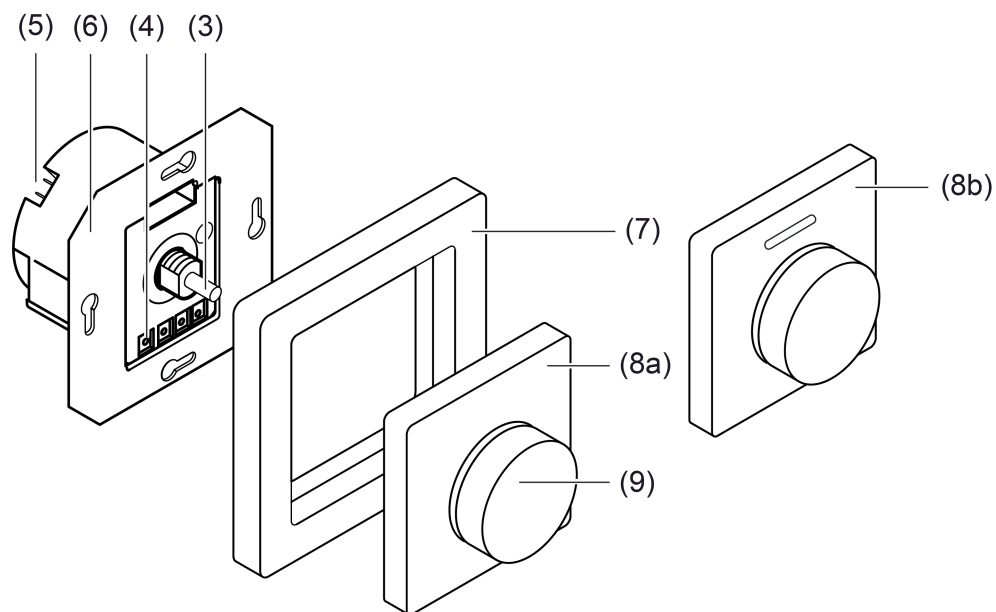

Figure 2: Mounting of the rotary sensor with decorative cover
- Dismantle central plate(7) and control button (8) if the device has already been completely mounted (figure 2).
- Activating Programming mode: press the programming button (2).